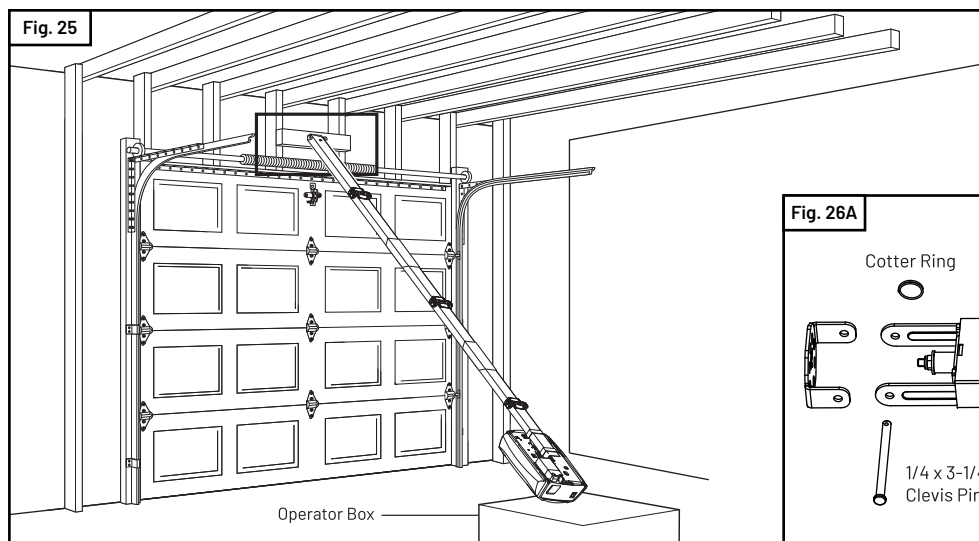

Fig. 26A
- Position rail end-stop within the openings in the header bracket. Insert header clevis pin (1/4" dia.) through header bracket and rail end, then attach cotter ring to end of pin. (See Fig. 26A)